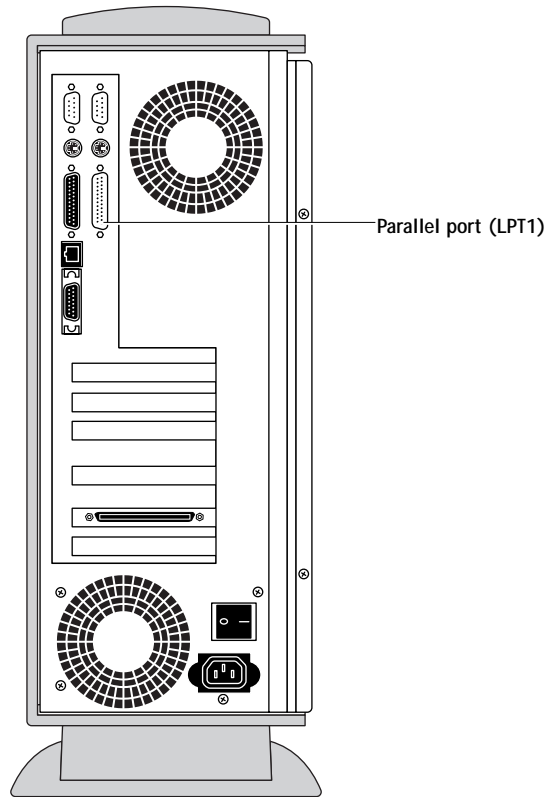

FIGURE 3-7 Parallel port (LPT1)
4. Connect the female 25-pin connector on the cable to the parallel port (labeled LPT1) on the back of the Fiery ZX (see Figure 3-7 on page 3-12).